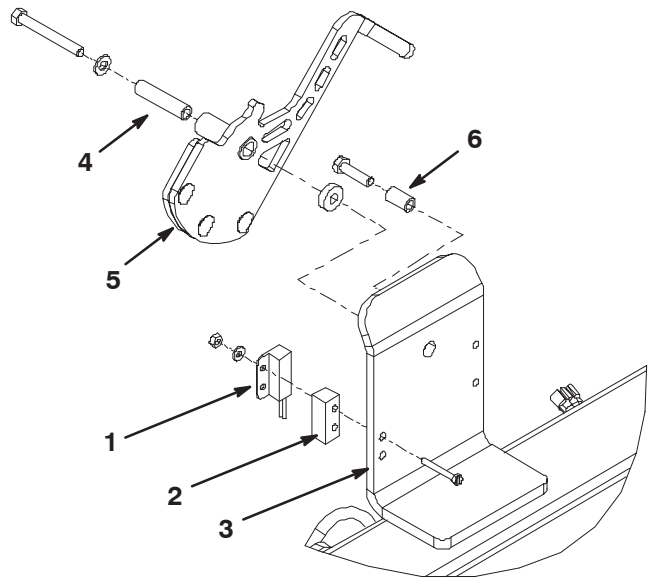

Figure 2
3. On the right side of the sweeper, remove the screws, washers and nuts securing the proximity switch and the spacer block to the frame mounting bracket (Fig. 2).
5. Remove the capscrew securing the washers, cam spacer, and switch cam to the frame mounting bracket (Fig. 2).
6. Remove the capscrew securing the washer and the mounting pin spacer to the frame mounting bracket (Fig. 2). Discard all the removed components.